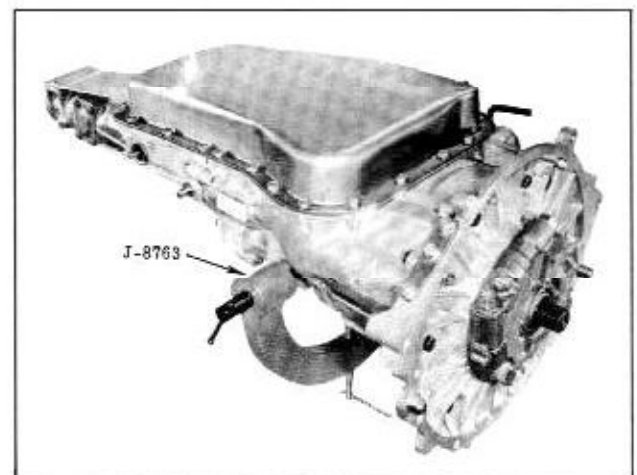

Figure 3-24 Transmission Holding Fixture
2. Place transmission and Holding Fixture into Bench Adaptor J-6115-A, then rotate transmission so that oil pan is up. (Fig. 3-24)